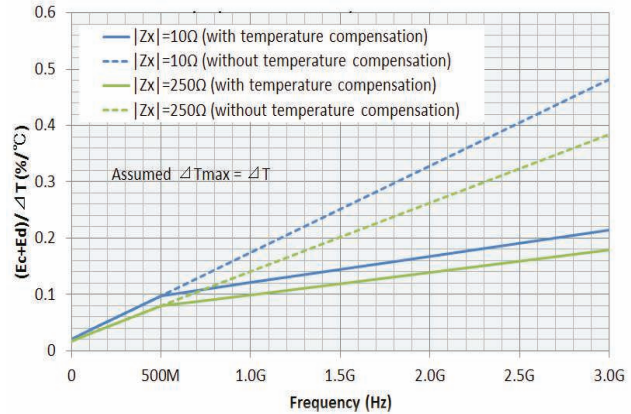

Figure 35. Typical frequency characteristics of temperature coefficient,  $(E_c+E_d)/\Delta T$ , when  $|Z_x|= 10 \Omega$  and  $250 \Omega^2$ .
1. See graphs in Figure 35 for the calculated values of  $(E_c+E_d)$  exclusive of the hysteresis errors  $E_{ah}$ ,  $Z_{sh}$  and  $Y_{oh}$ , when measured impedance is  $10 \Omega$  and  $250 \Omega$ .